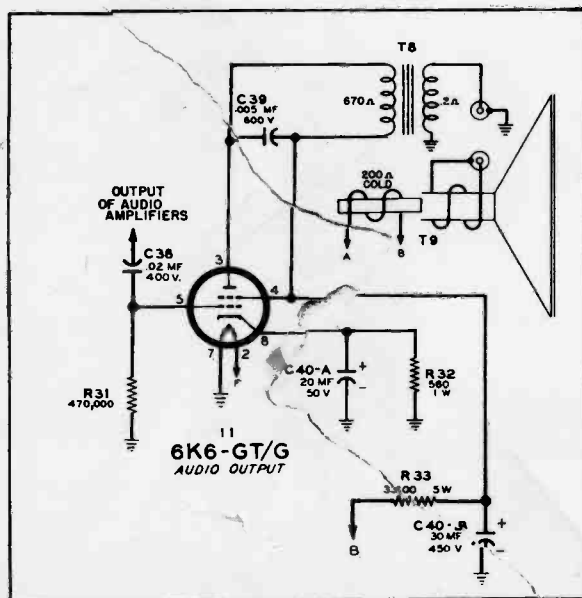

Figure 16. Audio Output Stage
The audio output stage (see figure 16) employs a conventional single-ended 6K6-GT/G output tube (11) driving a 6-inch electrodynamic speaker with a 3.2-ohm voice coil. The overall distortion is less than 5% at 1½ watts and starts to break up at slightly over 3 watts. Resistor R33 and capacitor C40-B filter out 120-cycle ripple from the low-voltage supply and prevent audio current changes from modulating the 300-volt d-c supply to the rest of the receiver.